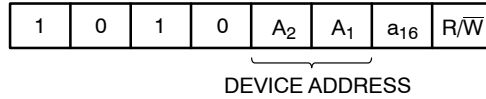

Figure 3. Slave Address Bits
The Master initiates data transfer by creating a START condition on the bus. The Master then broadcasts an 8-bit serial Slave address. The first 4 bits of the Slave address are set to 1010, for normal Read/Write operations (Figure 3). The next 2 bits, A₂, A₁, select one of 4 possible memory devices connected on a single I²C bus. The A₂ and A₁ bits must match the state of the external address pins. The seventh bit, a₁₆ is the most significant internal address bit. The last bit, R/ $\overline{W}$, specifies whether a Read (1) or Write (0) operation is to be performed. To select an internal memory location (data byte) a 17-bit address word is required: a₁₆ bit from the Slave address byte followed by two address bytes.